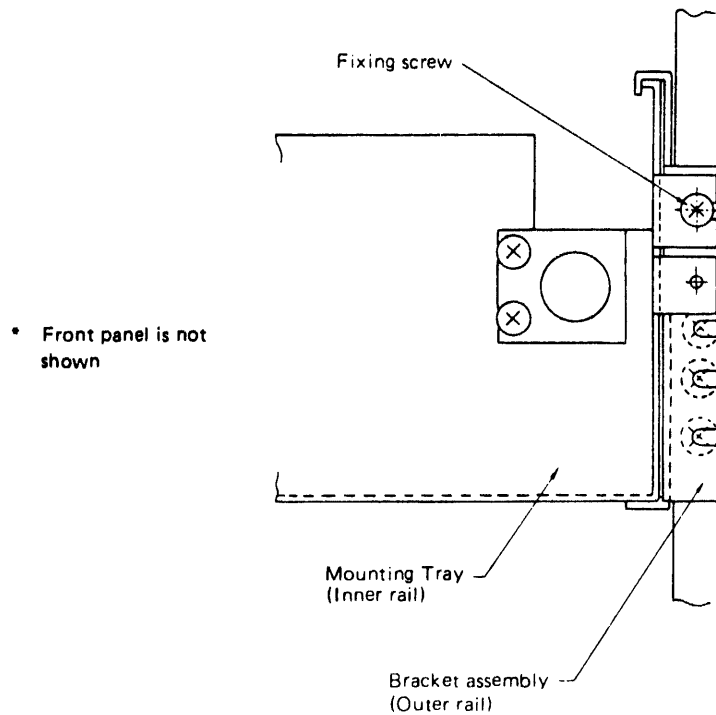

Figure 3-5-6 Mounting Tray to the Outer Rails
- ⑥ Insert the mounting tray and fix it to the outer rails at the front left and right. (See Figure 3-5-6).
- ⑦ Mount the front panel.